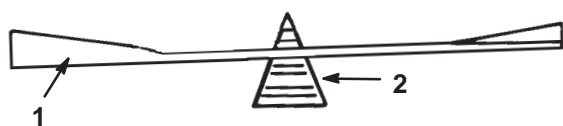

Figure 26
2. Check the balance of the blade by putting it on a blade balancer (Fig. 26). If the blade stays in a horizontal position, the blade is balanced and can be used. If the blade is not balanced, file some metal off the back side of the blade. Repeat this procedure until the blade is balanced.